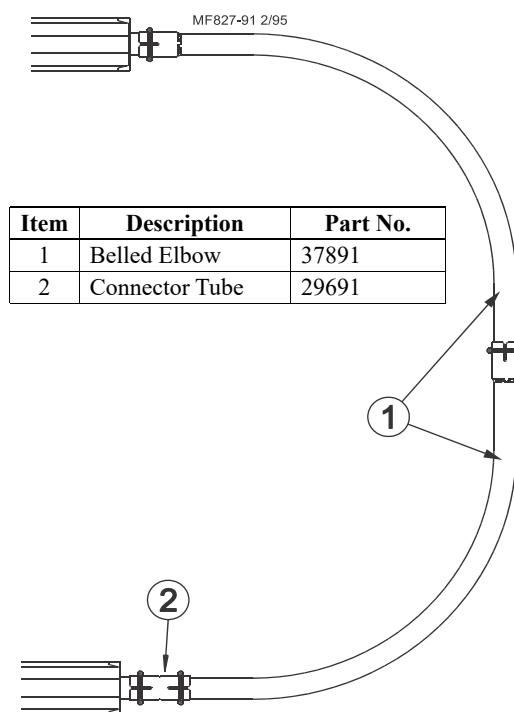

Figure 26. Commercial Layer Elbows
1. Insert the tube section of the End Cap into the belled end of a 90 degree elbow, as shown in **Figure 26**. Use a U-bolt style clamp to secure this joint...however, do not fully tighten clamp until the elbows are fully installed and leveled.
5. Fasten the End Cap and trough to the second 90 degree elbow, using a coupler and (2) U-bolt style clamps to secure this joint. However, do not fully tighten clamps until the elbows are fully installed and leveled.